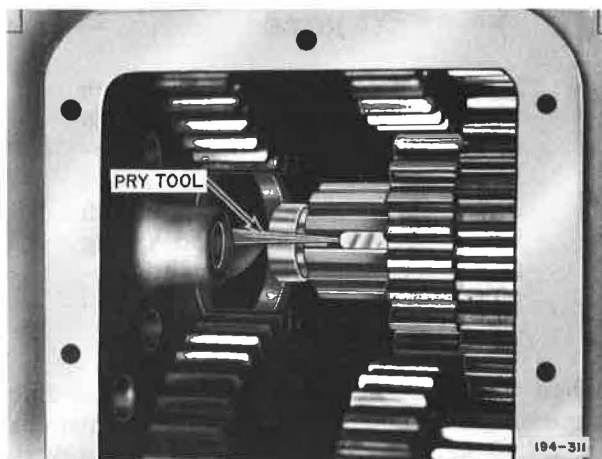

Figure 5-124. Removing Fourth Speed Gear Thrust Washer Key
4. Remove fourth/fifth speed sliding clutch from mainshaft, then pry key out of mainshaft spline using a small tool. See Figure 5-124.